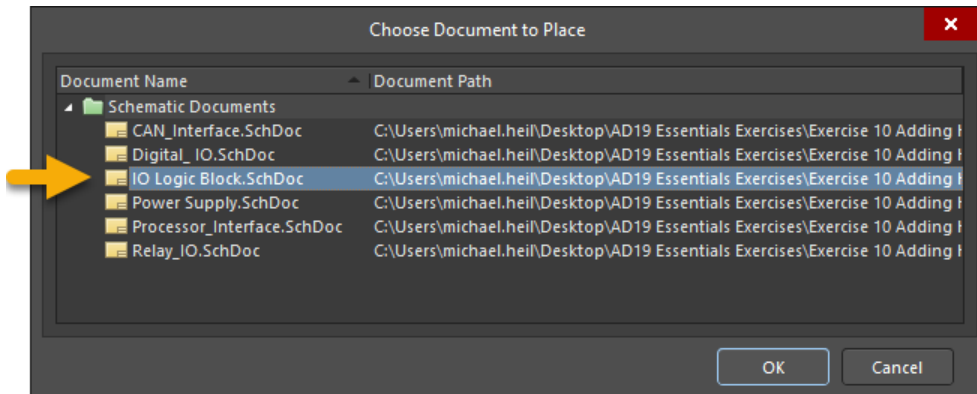

Figure 4. Choose Document to Place as a Sheet Symbol
18. Select the `IO Logic Block.SchDoc` from the dialog and select **OK**, Figure 4 below.